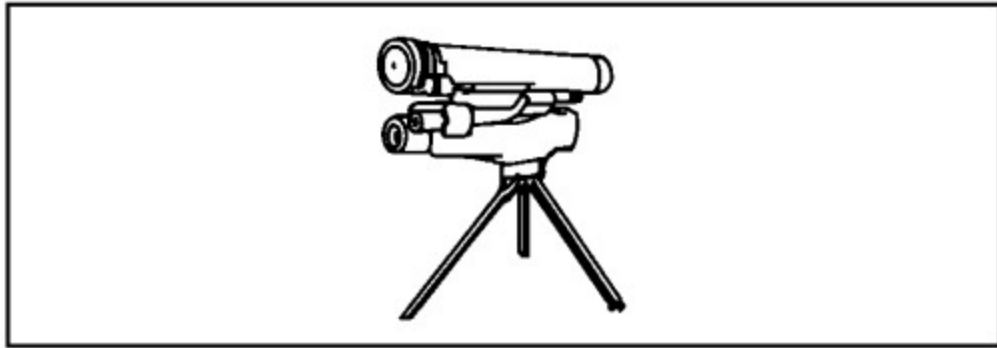

Figure 2-11. Antitank Guided Missile AT-7/SAXHORN.
(4) Remarks. Although introduced in 1973, the AT-6/SPIRAL system was not seen by Western observers until 1978 when it was spotted on a HIND E. Some sources credit the SPIRAL with a maximum range of 7,000 meters.
f. Antitank Guided Missile AT-7 SAXHORN. The following paragraphs discuss the AT-7 SAXHORN Guided Missile (shown in Figure 2-11).